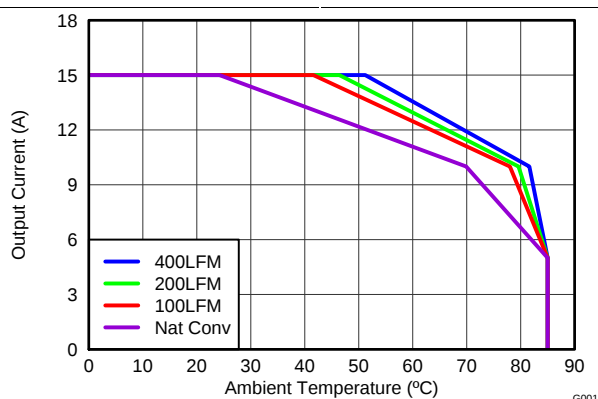
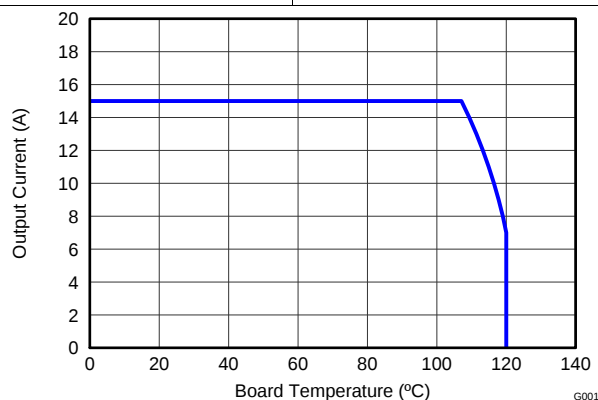

Figure 3. Safe Operating Area – PCB Horizontal Mount
Figure 5. Typical Safe Operating Area
The SOA curves in the CSD87333Q3D data sheet provides guidance on the temperature boundaries within an operating system by incorporating the thermal resistance and system power loss. Figure 3 to Figure 5 outline the temperature and airflow conditions required for a given load current. The area under the curve dictates the safe operating area. All the curves are based on measurements made on a PCB design with dimensions of 4 inches (W) × 3.5 inches (L) × 0.062 inches (T) and 6 copper layers of 1 oz. copper thickness.